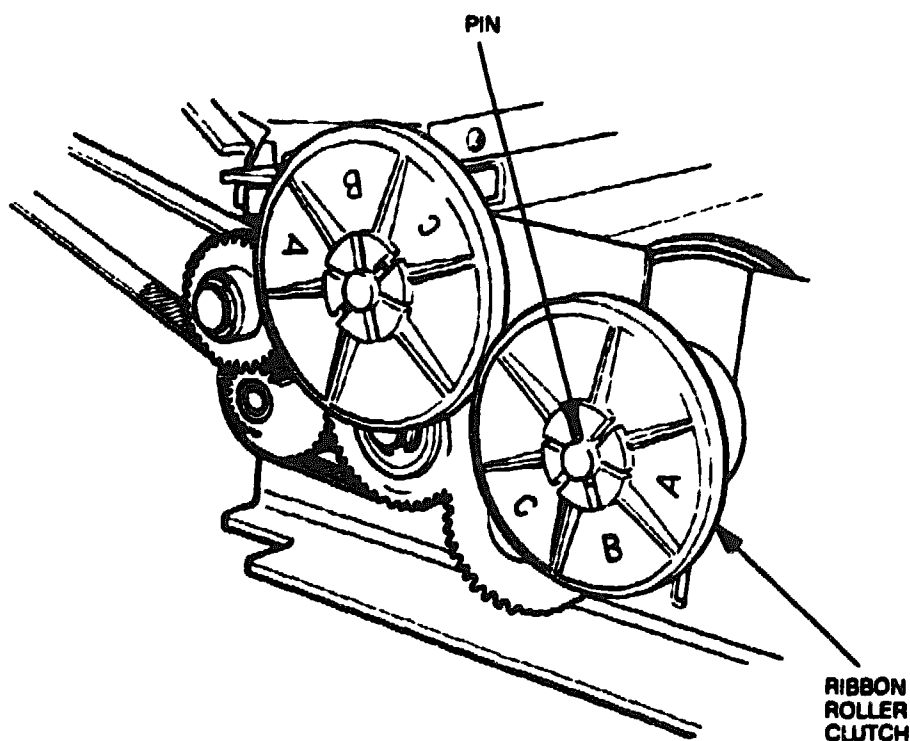

Figure 4-9 Ribbon Take-Up Roller Clutch Adjustment
5. Remove the retaining pin shown in Figure 4-9 by pressing the ribbon roller clutch inward and then turning it. If the amount of tension measured in step 3 is smaller than 500 g, set the retaining pin to position A on the ribbon roller clutch (see Figure 4-9). If the measurement is larger than 800 g, set the retaining pin to position C.